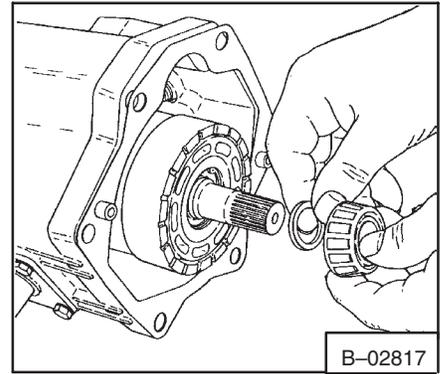

Fig. 3-102 Removing Gasket, Bearing & Spacer
10. Remove the gasket, bearing and bearing spacer (Fig. 3-102).